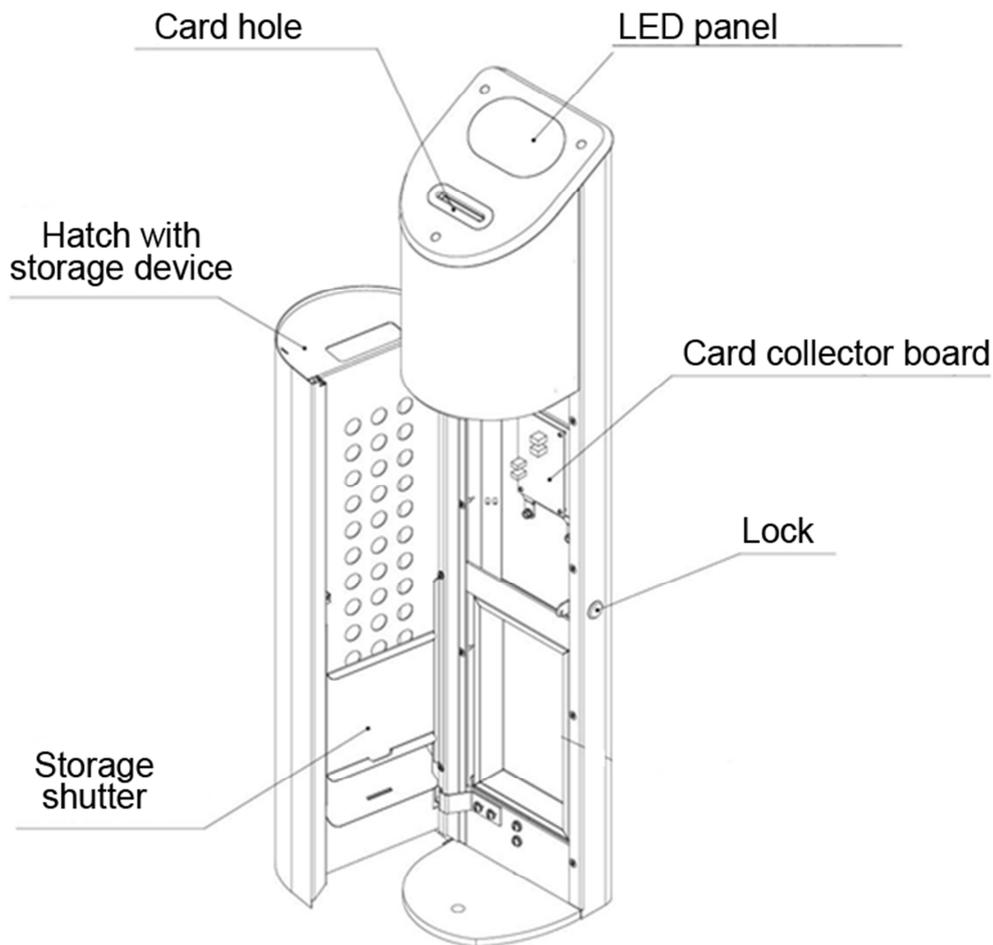

Fig 5. General view of card reader
Card collector (Fig. 5) is designed for collection and storage of proximity access cards at the exit from the facility. Flexible logic of the controller allows the integration of the card reader with any access control systems.
7.3.1. Open the hatch lock of card collector with a key (Fig. 5).
- Open the hatch of the card collector using the key (Fig. 5);